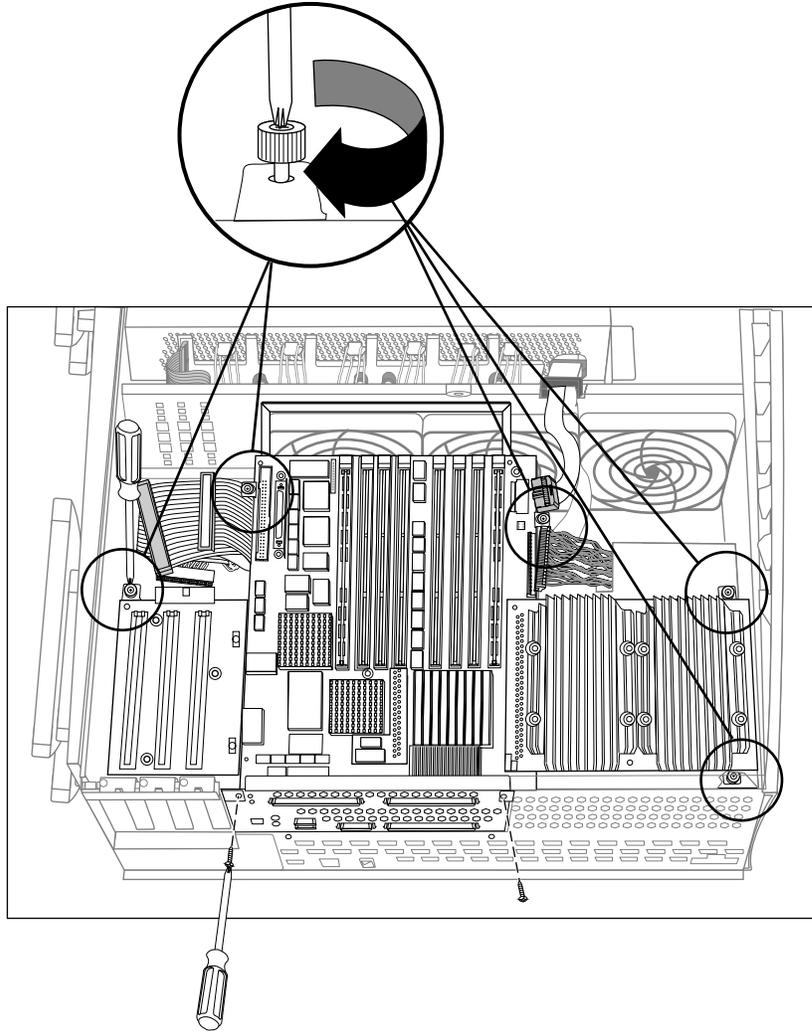

Figure 5-10 Fastening the Logic Carrier
2. Secure the logic carrier by tightening the captive fasteners and installing the sheetmetal screws, as shown in Figure 5-10.